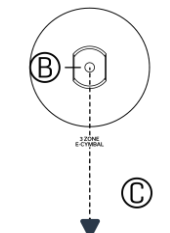

Figure 2
- 1 Unscrew the bottom nut (D) from the Hi-Hat Clutch (A).
- 2 Attach the spin lock (B) to the shaft of the top part of the Clutch (A).
- 3 Guide Clutch and spin lock through the middle hole of the Top Cymbal (C).
- 4 Orient the spin lock (B) inside the cymbal mold as shown in Figure 2.
- 5 Screw the bottom nut (D) onto the shaft of Clutch (A) again and clip the clutch bumper (E) on the bottom nut (D).
- 6 Lightly clamp the cymbal by fastening the top nut (A).